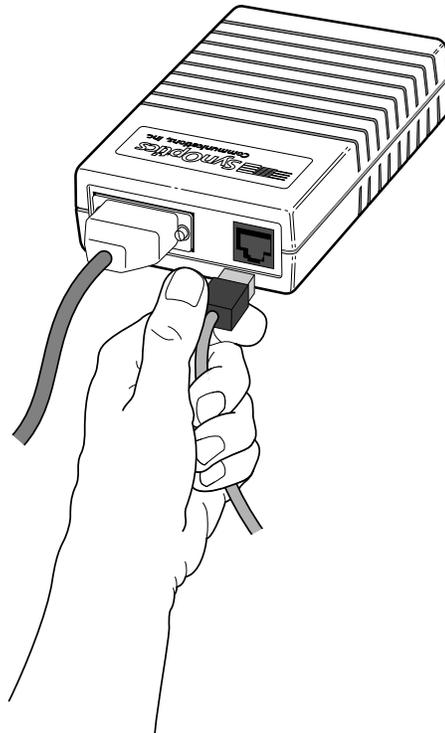
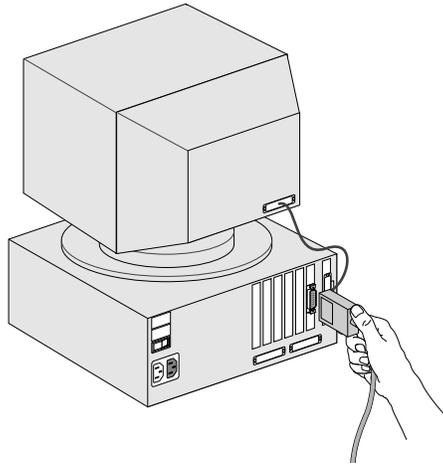

Figure 3-3. Connecting a Model 508B 10BASE-T Transceiver
Figure 3-4. Connecting a Model 928 Integrated 10BASE-T Transceiver
1. **Attach an AUI cable (e.g. Model 903A) from the interface card to the AUI port of an external 10BASE-T transceiver (e.g. Model 508B), as shown in Figure 3-3, or attach a SynOptics Model 928 Integrated Transceiver directly to the interface card (see Figure 3-4).**
2. **Connect a UTP patch cable (e.g. Model 910) from the RJ-45 port of the 10BASE-T transceiver to the RJ-45 connector of the wall outlet, or attach the captive cable on the Model 928 to the wall outlet (see Figures 3-3 and 3-4).**